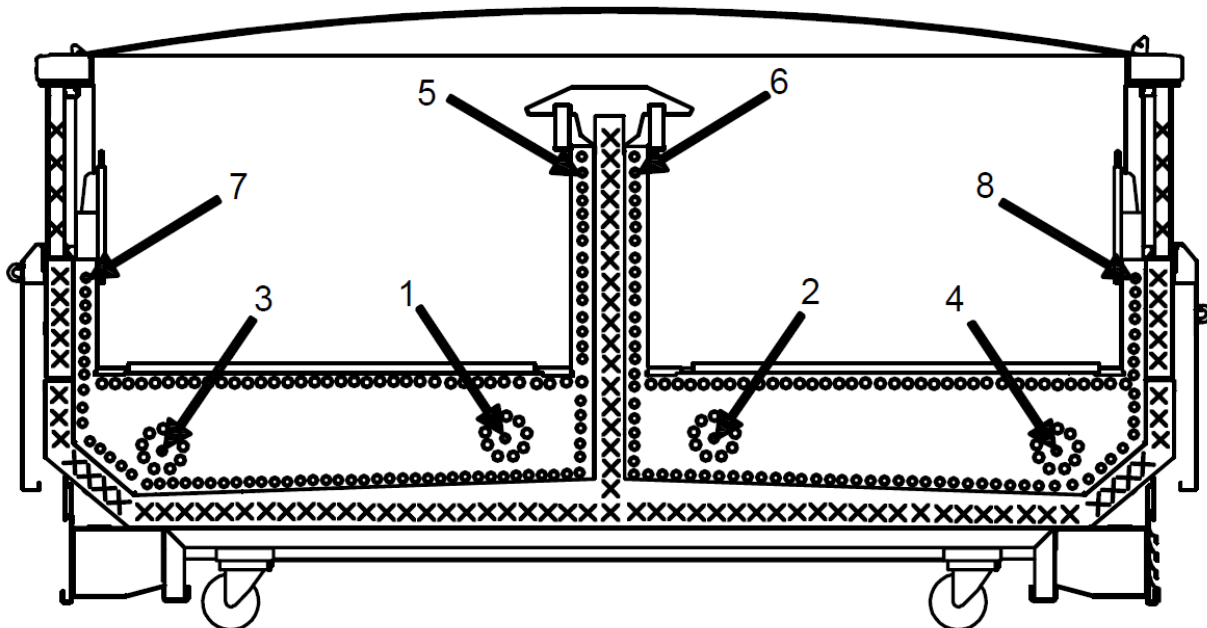

Fig. 4 Bolt Holes for Case
4. Push the cases tightly together, then lightly bolt them together through the holes that are provided (Fig. 4). Tighten all the joining bolts until all margins are equal. Be careful not to over tighten.
Before operating the case, be certain to remove the shipping blocks that protect the refrigeration lines during shipping (Fig. 5). If it becomes necessary to penetrate the case tank in any area, seal any open gaps afterwards with canned-foam sealant and white RTV. Use Figure 4 on the previous page for reference.